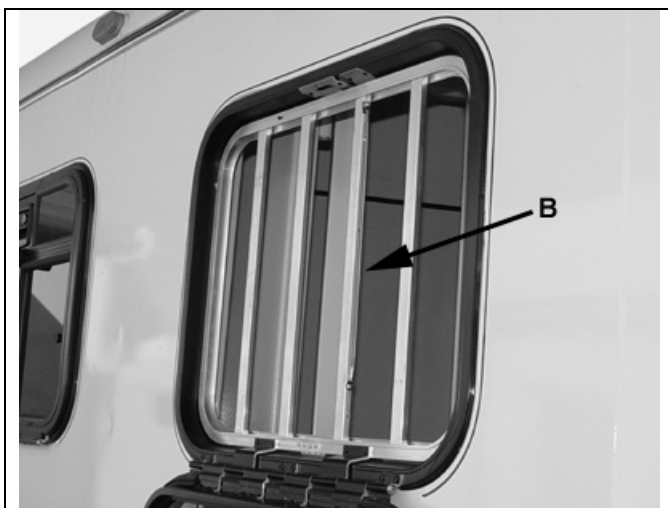

Figure 8-5 – Open Safety Grill
The safety grill can also be opened down to allow feeding or total head exposure while parked. Pull outward on cable (B) to open grill. See figure 8-5.